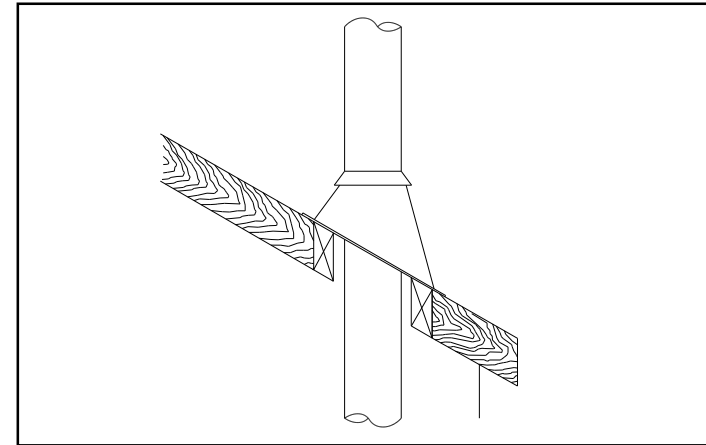

Figure 32
1. Install the first elbow. Turn it in the required direction. To lock it in place, turn 1/8 of a turn. Fasten the straps attached to the elbow to the surrounding frame, using nails or drywall screws (figure 32).